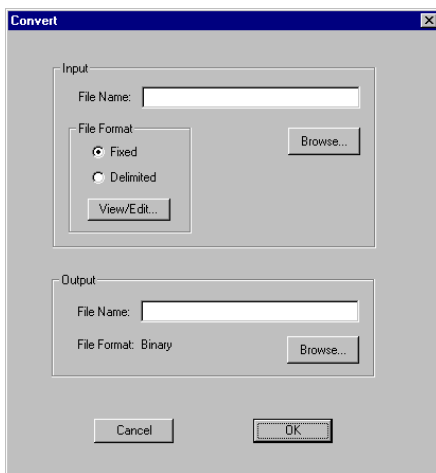

Figure 2.2. CONVERT Dialog Box
- Click the Convert... button to open the Convert dialog box (Figure 2.2)